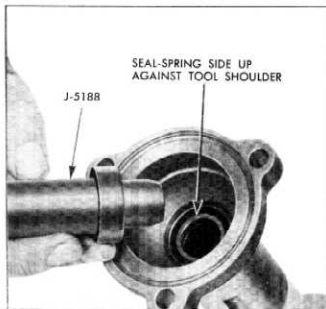

Fig. 42—Installing Valve Cover Seal
- Use installer tool, J-5188, to install new seal (fig. 42). The lip and spring side of seal go toward shoulder of tool.